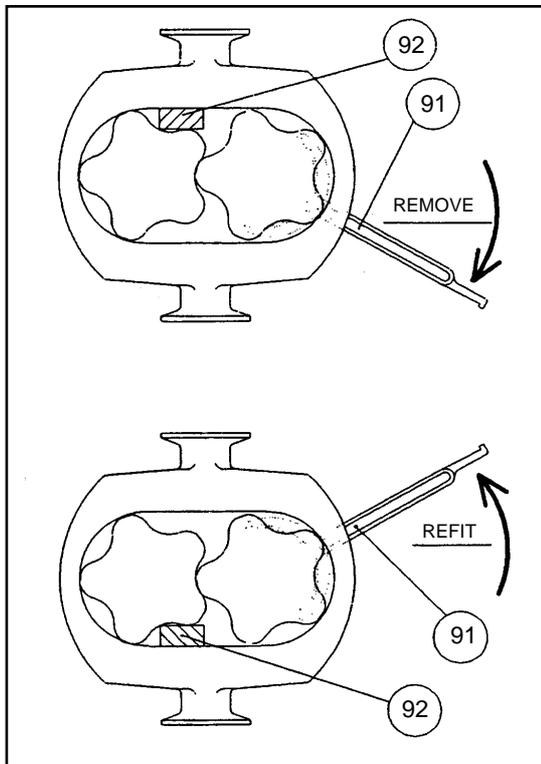

Figure 13
- a) Remove end cover - see Section 6.01. Loosen two hexagon socket screws (29) in each rotor retainer by **HALF TURN ONLY**.
- b) Lock the pump rotors with a soft spacer - a plastic block (92) is supplied for this purpose. Unscrew each rotor retainer (28) in turn, to push the rotors forwards, using the tool supplied (91) - see Figure 13.
- e) Take care not to damage the rotors and especially the smooth face of the mechanical seal (56) which is pressed in the back. Do not attempt to remove the seal unless you intend to fit a new seal (56) or cup rubber (49).
- d) Tighten each retainer using the plastic block to lock the pump. Do not hit the tool handle with another tool - hand tight is sufficient. Tighten the two hexagon screws in each rotor retainer to prevent it from loosening (See Figure 13).